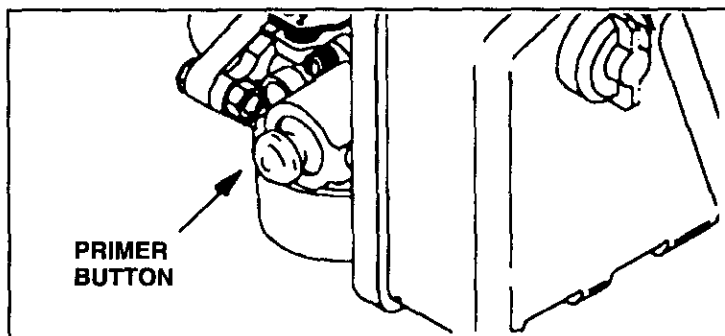

Figure 2
① RECOIL STARTER (with primer):
B. Push primer 5 times (see Figure 2). Wait about two (2) seconds between each push. In cold weather (500F/100C or below) push five (5) times.